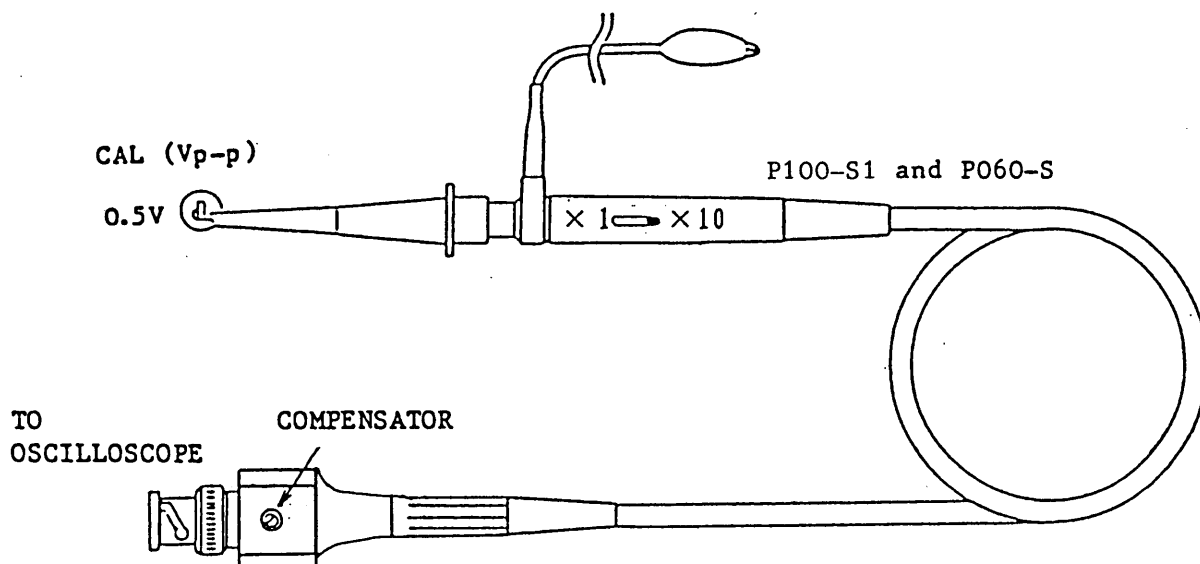

Figure 4.6
Connect one of the probes to the CH1 INPUT ⑧ terminal and set the VOLTS/DIV ⑥ switch at 10 mV. Set the switch at x 10. Connect the probe tip to the CAL terminal. Observing the waveform displayed on the CRT, adjust the compensator (see Figure 4-6) with a screw-driver so that an ideal waveform is obtained.